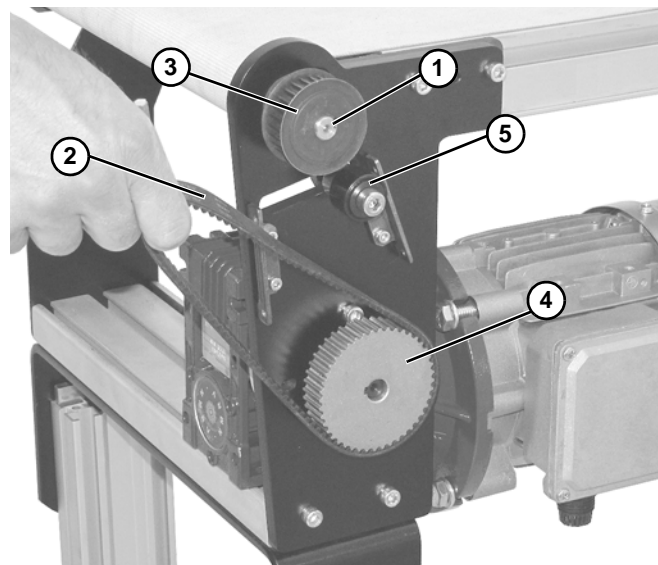
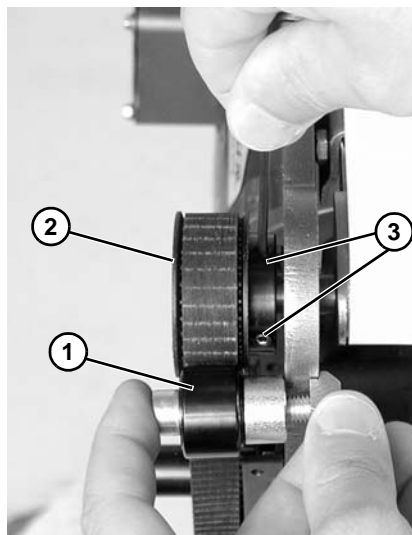
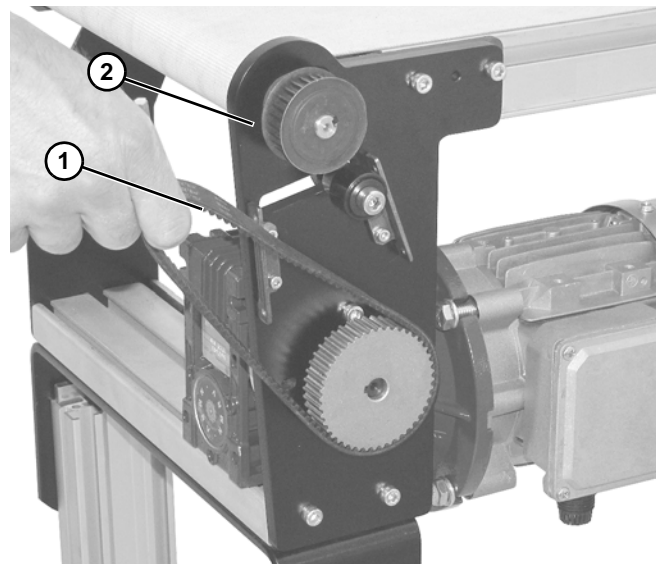

Figure 15
Figure 16
Figure 21
9. Install key onto top shaft (**Figure 15, item 1**).
10. Wrap timing belt (**Figure 15, item 2**) around driven pulley (**Figure 15, item 3**) and drive pulley (**Figure 15, item 4**). Install driven pulley (**Figure 15, item 3**) onto conveyor shaft.
11. Remove cam bearing and spacer (**Figure 15, item 5**). Place cam bearing and spacer (**Figure 16, item 1**) next to driven pulley (**Figure 16, item 2**). Ensure flanges of driven pulley are aligned with cam bearing. Tighten driven pulley set screws (**Figure 16, item 3**). This will allow for proper belt alignment while conveyor is in use. Install cam bearing and spacer (**Figure 16, item 1**).
3. Remove timing belt (**Figure 21, item 1**).
*If timing belt does not slide over pulley flange, loosen driven pulley (**Figure 21, item 2**) set screws and remove pulley with belt (**Figure 21, item 1**). For re-installation, see step 10 and **Figure 15** on page 13.*